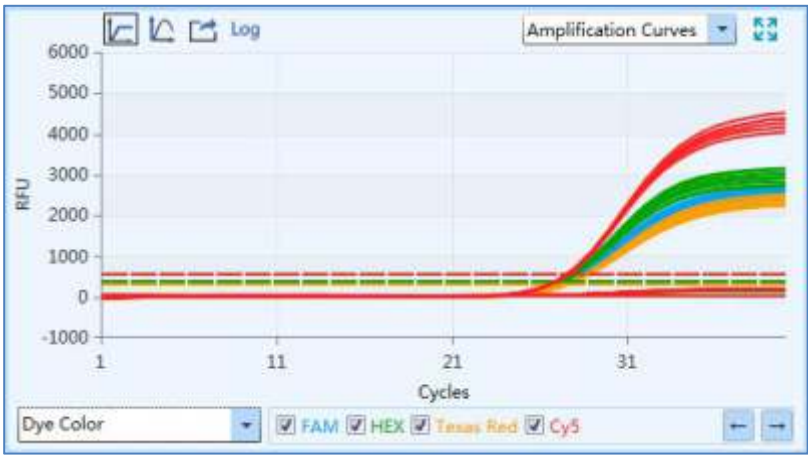

Figure D-9.1 Abs Quant analysis interface - Amplification Curves functional module
- I. **Amplification Curves:** display the diagram of fluorescence intensity against cycle number of the current experiment, as shown in figure D-9.1.